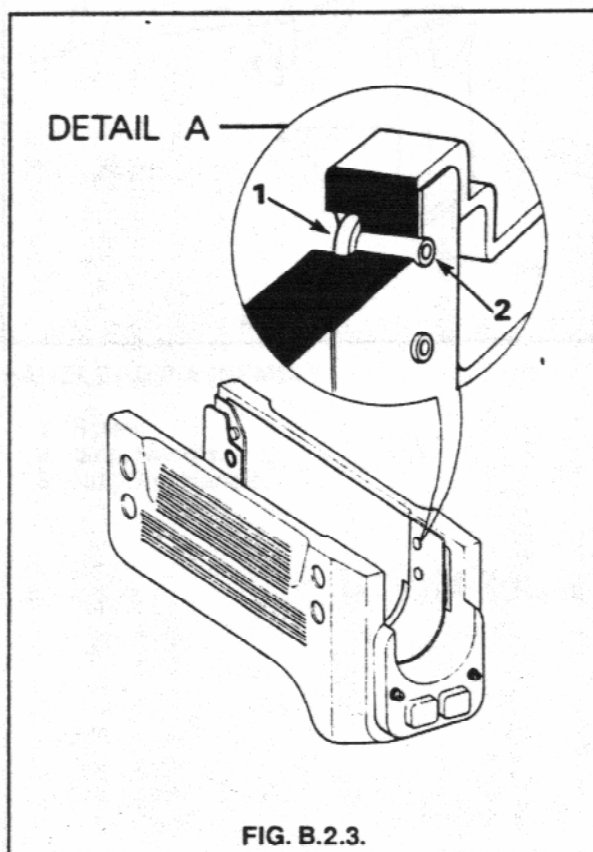

FIG. B.2.3.
1. Using a 4,00 mm twist drill, remove the heads of loose rivets of handguard. Using a hammer and a suitable punch, remove loose rivets stems. When replacing rivets ensure that rivets are formed in accordance with detail "A" of Fig. B.2.3.